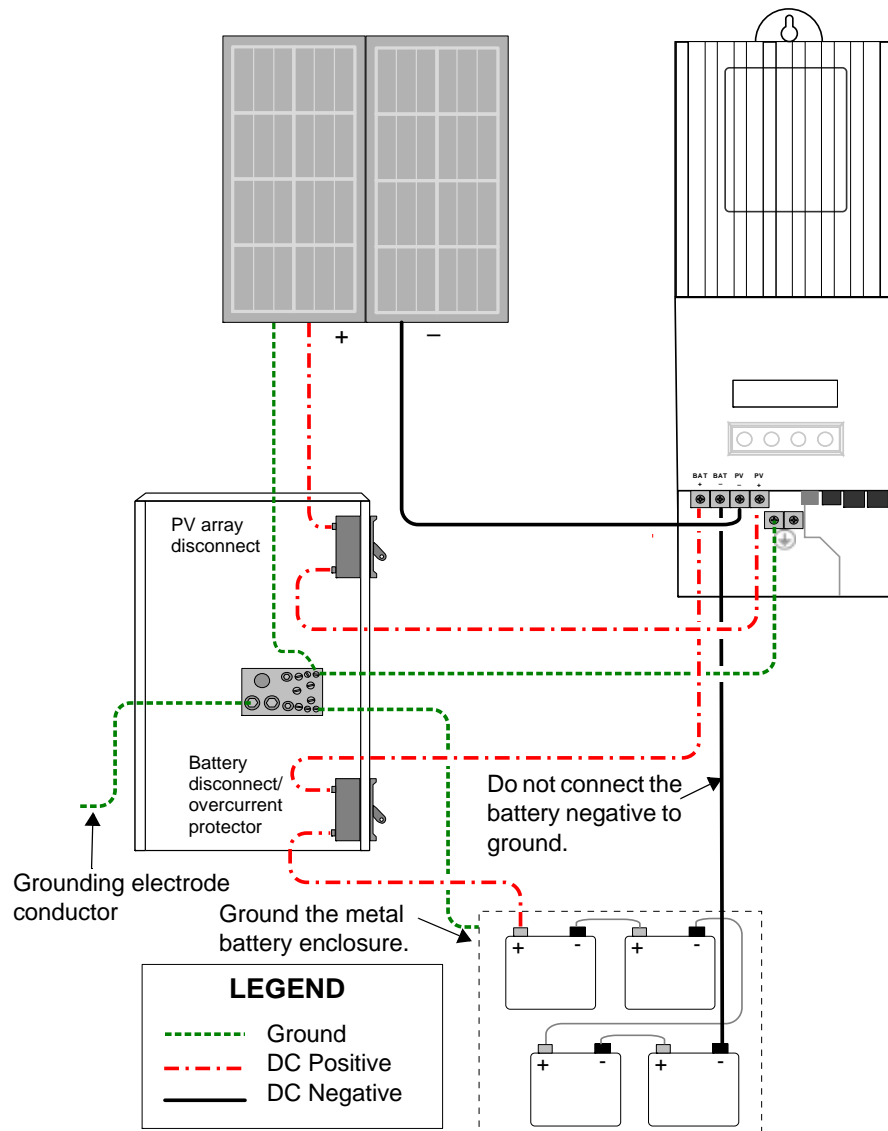

Figure 2-9 Charge Controller Wiring
- If PV-GFP is enabled, do not ground either PV negative or battery negative circuits. Grounding these circuits will defeat the internal PV-GFP protective function. See Figure 2-9 on page 2-14 for recommended battery circuit wiring.
The following procedure is illustrated in Figure 2-9.
Do not connect the battery negative to ground. Bonding the battery negative to ground disables the unit's internal PV ground-fault protection. For more information, see "Grounding" on page 2-7. See Figure 2-9 on page 2-14 for correct routing of the battery negative.
2. Ground the XW SCC. Connect a grounding conductor between an XW SCC ground lug and the system ground (as shown in Figure 2-9).